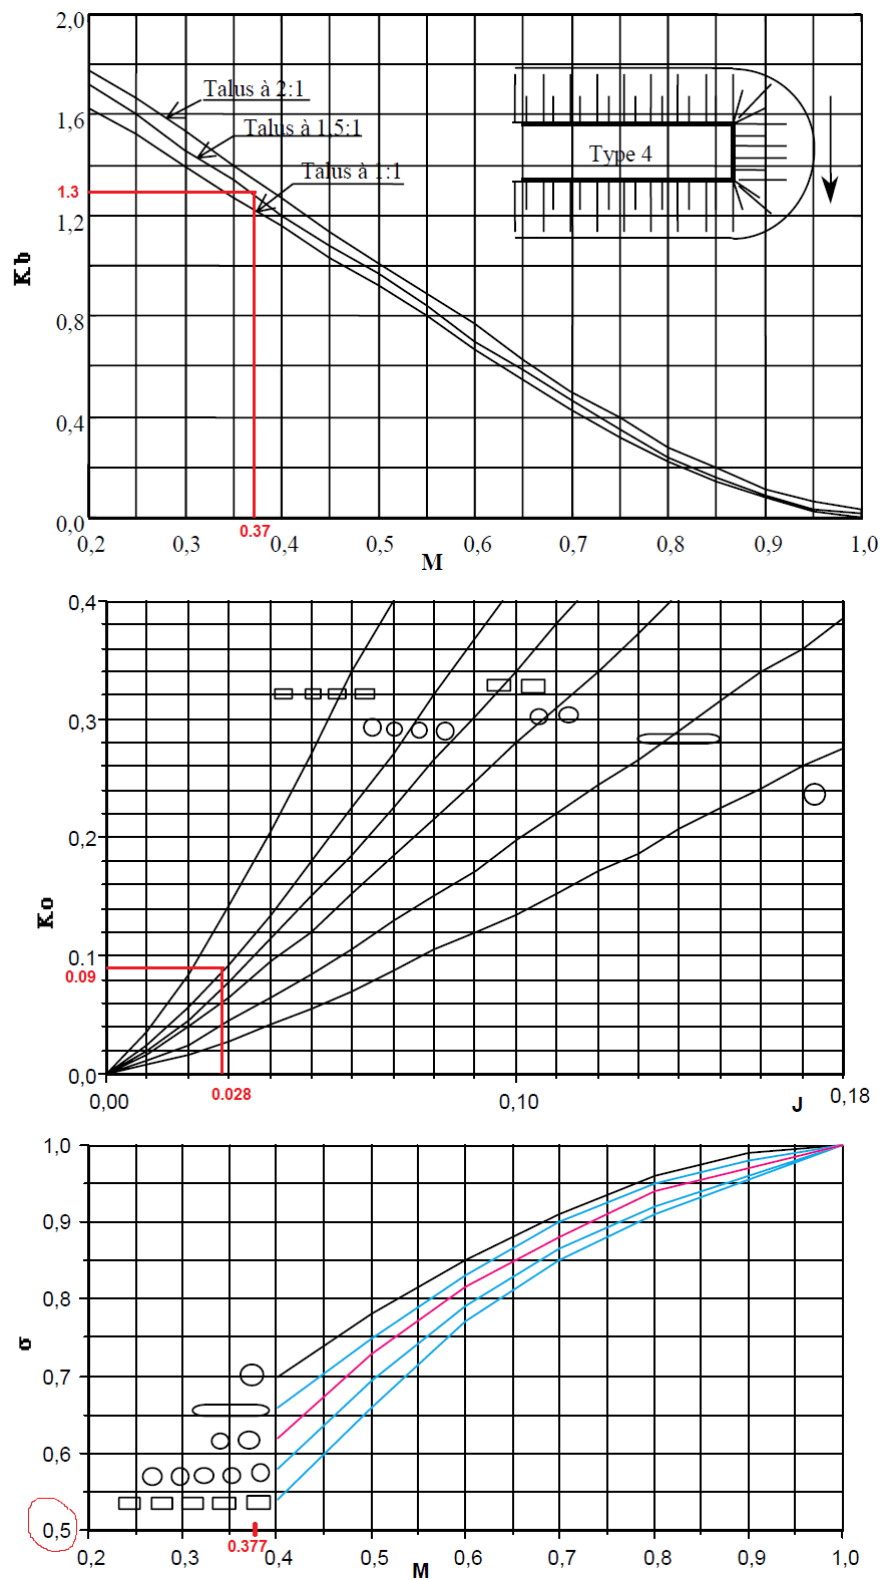

FIGURE 2 –
- $K^* = K_b + K_p + K_e = 1.3 + 0.04 + 0$  (voir la figure 2)